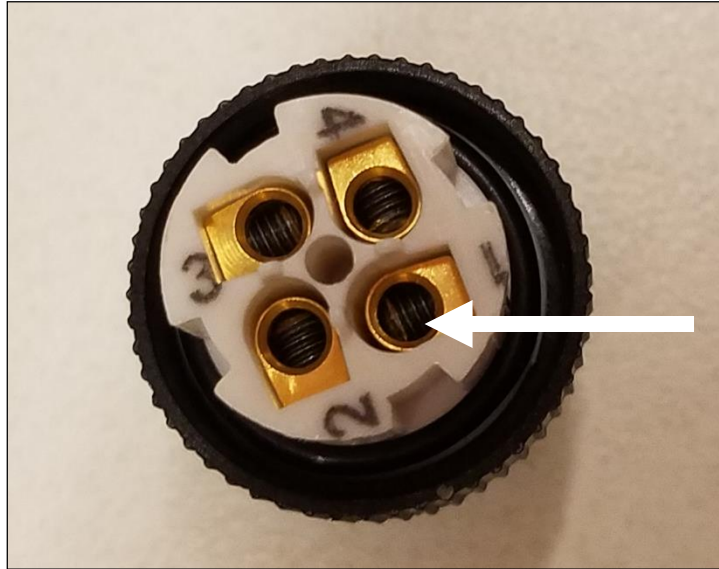

Figure PH018-2 – Number 1, White Wire
5. Re-attach the white wire to port 1 as shown in Figure PH018-2.